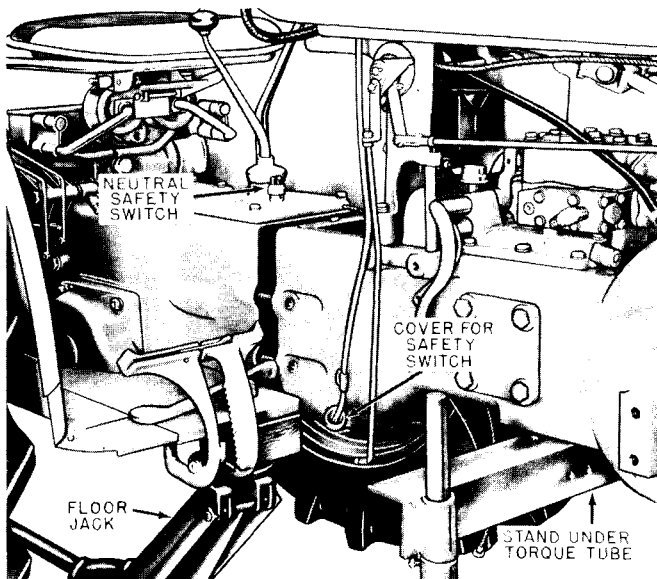

Fig. A-13 Splitting Tractor at Rear End of Torque Tube
18. Put stand similar to one shown under torque tube and floorjack under transmission case. Fig. A-13.